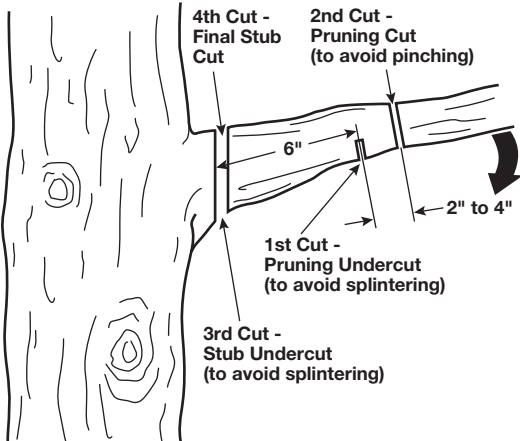

Fig. 15 Cutting Sequence for Pruning a Tree Limb
- Use the top of the guide bar to make the first cut on the underside of the limb. This cut should be about 6" from the tree trunk and about 1/3 of the thickness of the limb (Fig. 15).
- Move 2" to 4" farther out on the limb and use the bottom of the guide bar to make the second cut on the topside of the limb. Continue cutting until the limb is completely off the tree (Fig. 15).
- Use the top of the guide bar to make the third cut on the underside of the limb stump. This should be made as close as possible to the tree trunk and about 1/3 of the thickness of the limb stump (Fig. 15).
- Use the bottom of the guide bar to make the fourth and final cut. Make this cut directly above the last and downwards through the limb stump (Fig. 15).